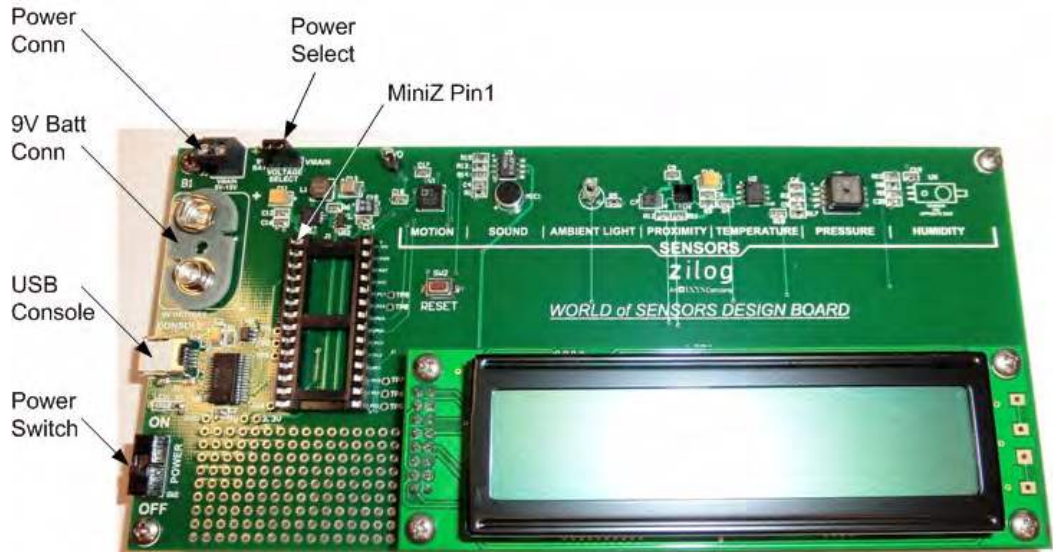

Figure 1. The World of Sensors Design Board
Figure 1 identifies key components of the World of Sensors Design Board.
6. Turn the World of Sensors Design Board on (the Power Switch is indicated in Figure 1 on page 1). You should see the following command prompt on the terminal software: